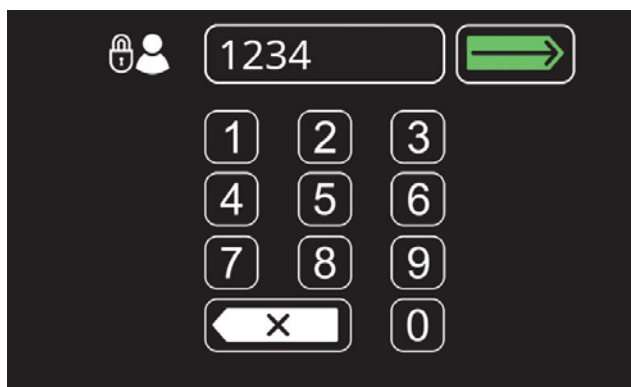

FIG. 159
3. First time use - Enter the factory-assigned supervisor mode login code "1234" then press the green enter button (Figure 159).